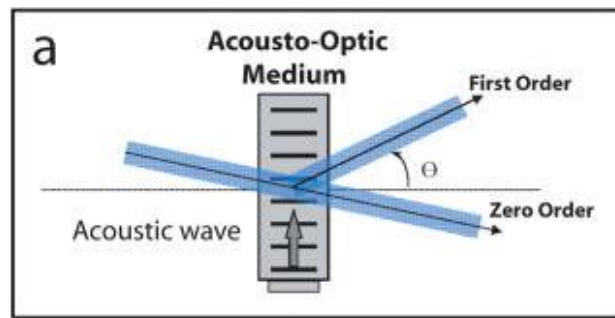

Figure 5. AO interaction layout
- Use JavaFX to include a simple representation of the AO interaction. Figure 5 shows an example. Again, you can use this as an inspiration for your own representation of the AO interaction. **Your representation should change dynamically with the input parameters** (e.g. laser color, changes in the Bragg angle, etc. should be reflected in the layout).
- Build a graphical, top-view representation of your diffraction experiment (see Figure 5). This top-view layout should be dynamically adjusted when changing your parameters (e.g. if you switch your laser from red to green, your layout should show your beam lights in green; similarly, if the diffraction angle is augmented, this increment should be also reflected in your layout, etc.).